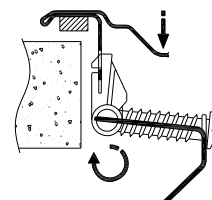

Fig 4.
12. Pass the sink through the worktop cut out from above, align the sink straight to the cut out hole and worktop front edge (fig 4.).